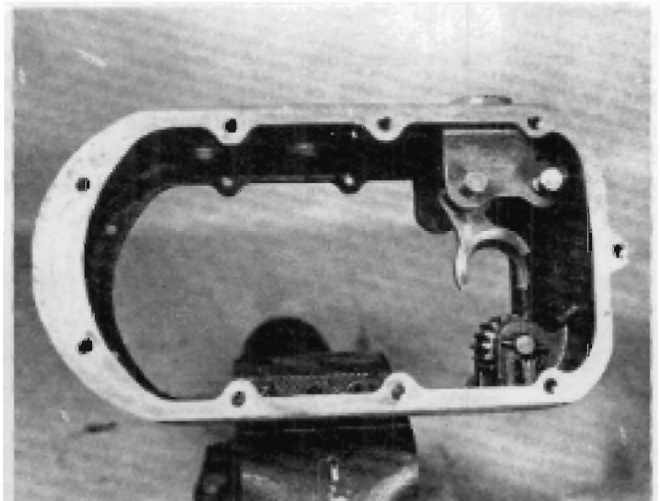

FIGURE 8
11. To remove the reverse idler gear, drive out the roll pin from the idler gear pin and remove the pin and gear. See Figure 8. (Early models used a roll pin at each end of the idler gear pin.)